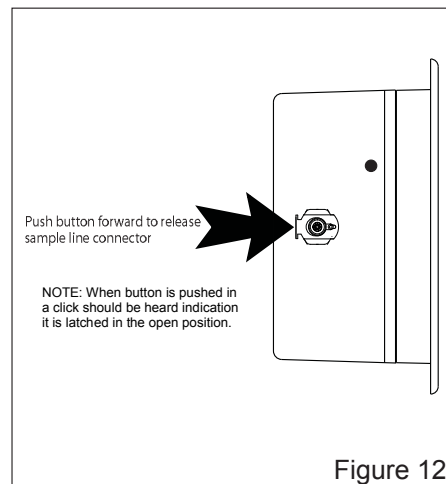

Figure 12
- 2 Remove sample line from the input connector by pressing in the input connector release button, see figure 12. Note the **STATUS** indicator will turn yellow and the horn will sound every few seconds. Connect the calibration regulator to the instruments input connector.
- 2 Remove sample line from the input connector by pressing in the input connector release button, see figure 12. Note the **Status** Indicator will turn yellow and the horn will sound every few seconds. Connect the calibration regulator to the instruments input connector.